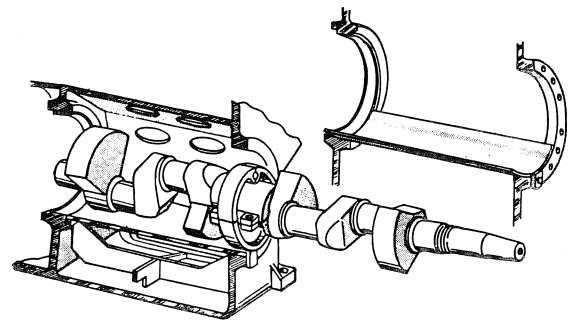
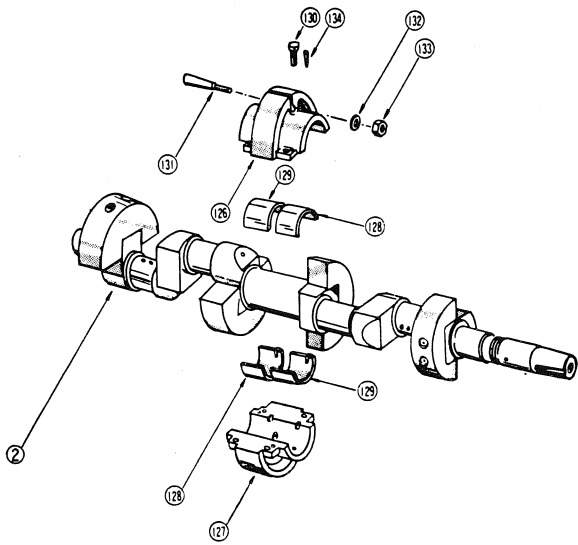

Fig. 55 How to pull out crankshaft, Models 12WB & 12-4WB
Fig. 56 Intermediate bearing for Models 12WB & 12-4WB
held only by the intermediate bearing, as shown Figure 55.
- b) Remove the oil pump assembly (56) by loosening screws (60). Do not loosen screws DG1-7-1. These screws are loosened only when reversing the direction of revolution. For this purpose, loosen screws (DG1-7-1) and turn the oil pump assembly 180°.
- c) Remove the drag crank (3).
- d) Using a box wrench, loose the locknut (133) of the taper pin (131) which holds the intermediate bearing to the main body (refer to Figure 56).
- e) When the locknut has been slackened off about 5 mm, tap the taper pin (131) and pull out.
- f) Although not included in our standard tool kit, a special shaft disassembly tool is available by order and will make this job much easier (refer Fig. 55).
- g) Push out the shaft with a wood block from the handhole cover side until the shaft comes out at the position shown in Fig. 55. Now hang the shaft at the intermediate bearing and pull out completely.
- h) Release the intermediate bearing by propping up the main bearing and thrust bearing sections with wooden blocks. Draw out the taper pin (134), and the mediate bearing will separate into two pieces.